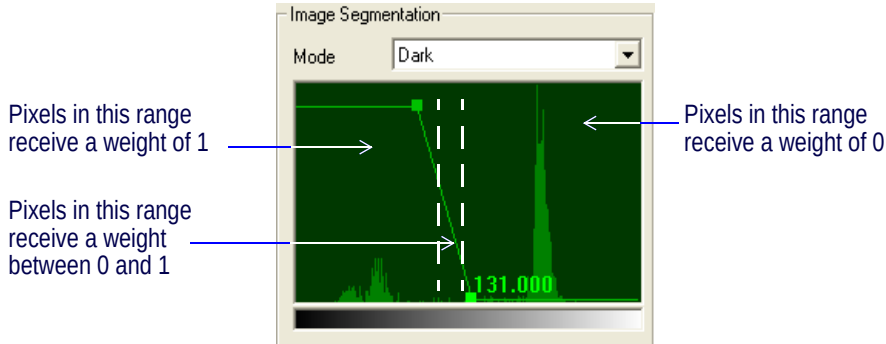

Figure 70 Image Segmentation Function Editor
3. Use the mouse to drag the handles in the graphic function editor. Set the Image Segmentation weight function as illustrated in Figure 70.